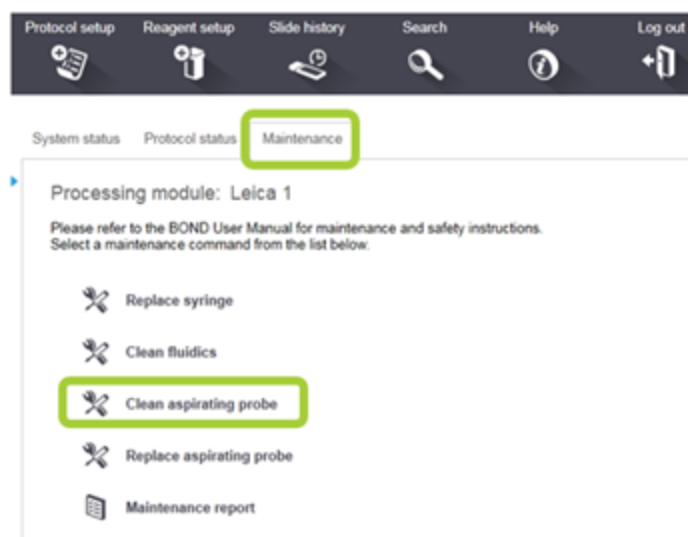

Figure 69: Run Aspirating probe cleaning cycle
2. Load the **Aspirating Probe Cleaning kit**. From the Maintenance tab, run **Clean aspirating probe** cycle (see Figure 69) before any other users begin work on the BOND RX/RX^m.